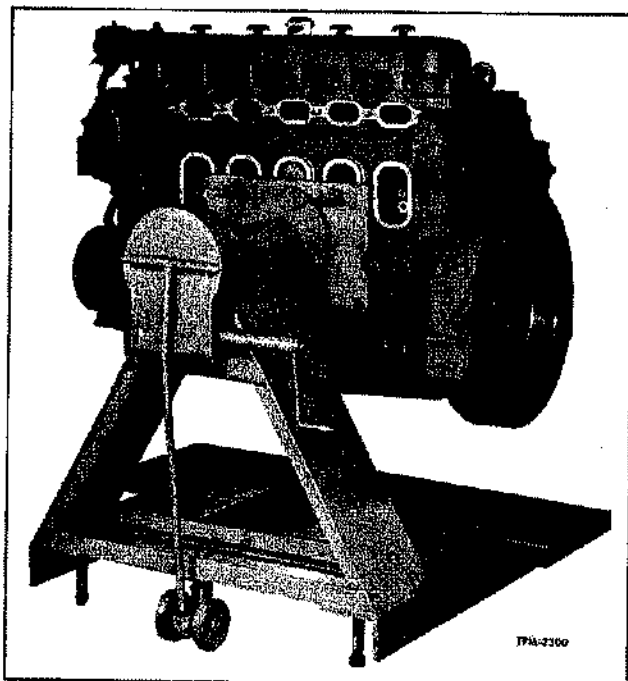

Figure 6—Engine Mounted in Overhaul Stand
1. Locate center lug of overhaul stand support-plate in proper air-box opening on exhaust manifold side of block. The center lug is located in the number two air-box opening on four cylinder engines, and in the number four air-box opening of six cylinder engines (see fig. 6).